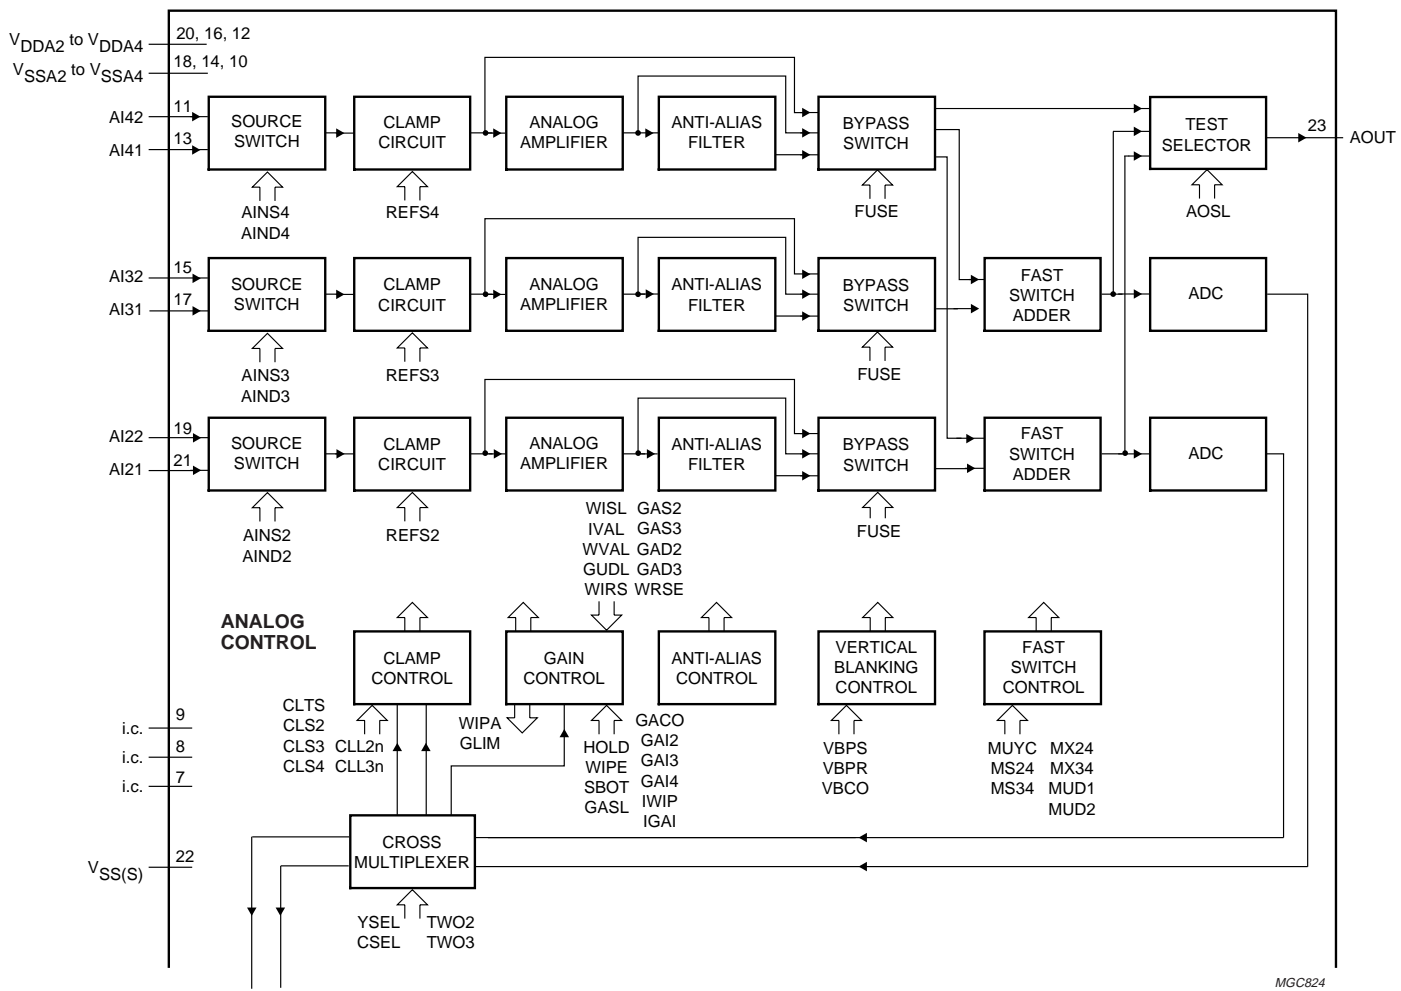

Fig.5 Analog input processing and analog control part.
9.1 Analog input processing (see Fig.5)